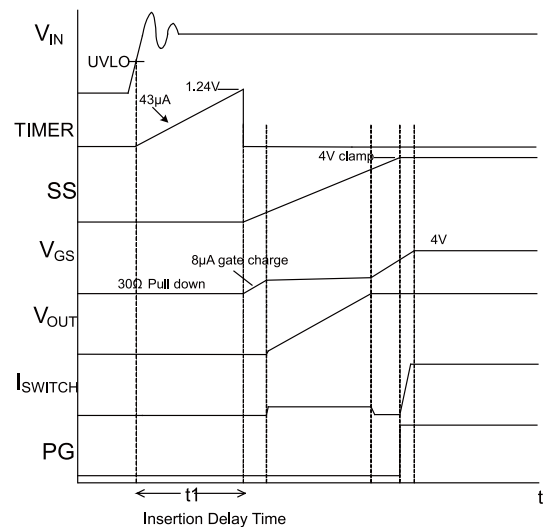

Figure 4: Start-Up Sequence
For hot-swap applications, the input of the MP5022C can experience a voltage spike or transient during the hot-plug procedure. This is caused by the parasitic inductance of the input trace and the input capacitor. To help stabilize the input voltage, an insertion delay is implemented before the main FET is turned on. TIMER charges the external capacitor (C_T) through a 43μA constant current source when the input voltage reaches the UVLO threshold (see Figure 4). The insertion delay finishes when the TIMER voltage reaches 1.24V. The capacitance of C_T can be determined with Equation (2):